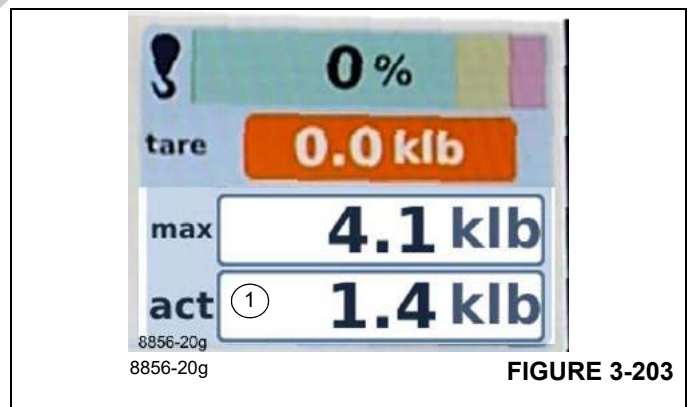

FIGURE 3-203
Display:	Lifted load (1), (Figure 3-203) in tons (t) or kilo-pounds (klbs) Example: 5.95 klb equals 5,950 lbs.